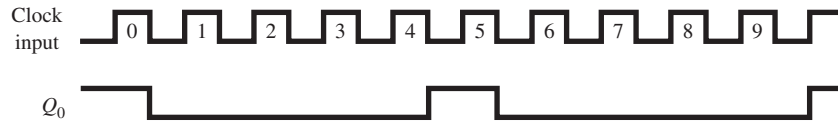

Figure P10
10. Repeat Problem 9 for the waveforms shown in Figure P10.